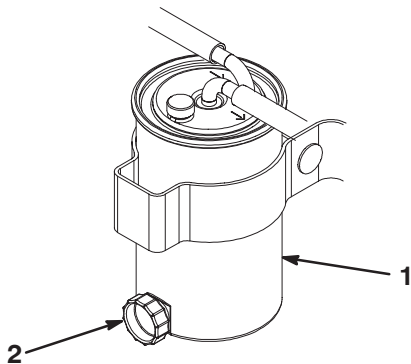

Figure 29
3. Open the drain plug on the fuel filter/water separator approximately one turn and drain any accumulated water (Fig. 29). Tighten the plug after draining.